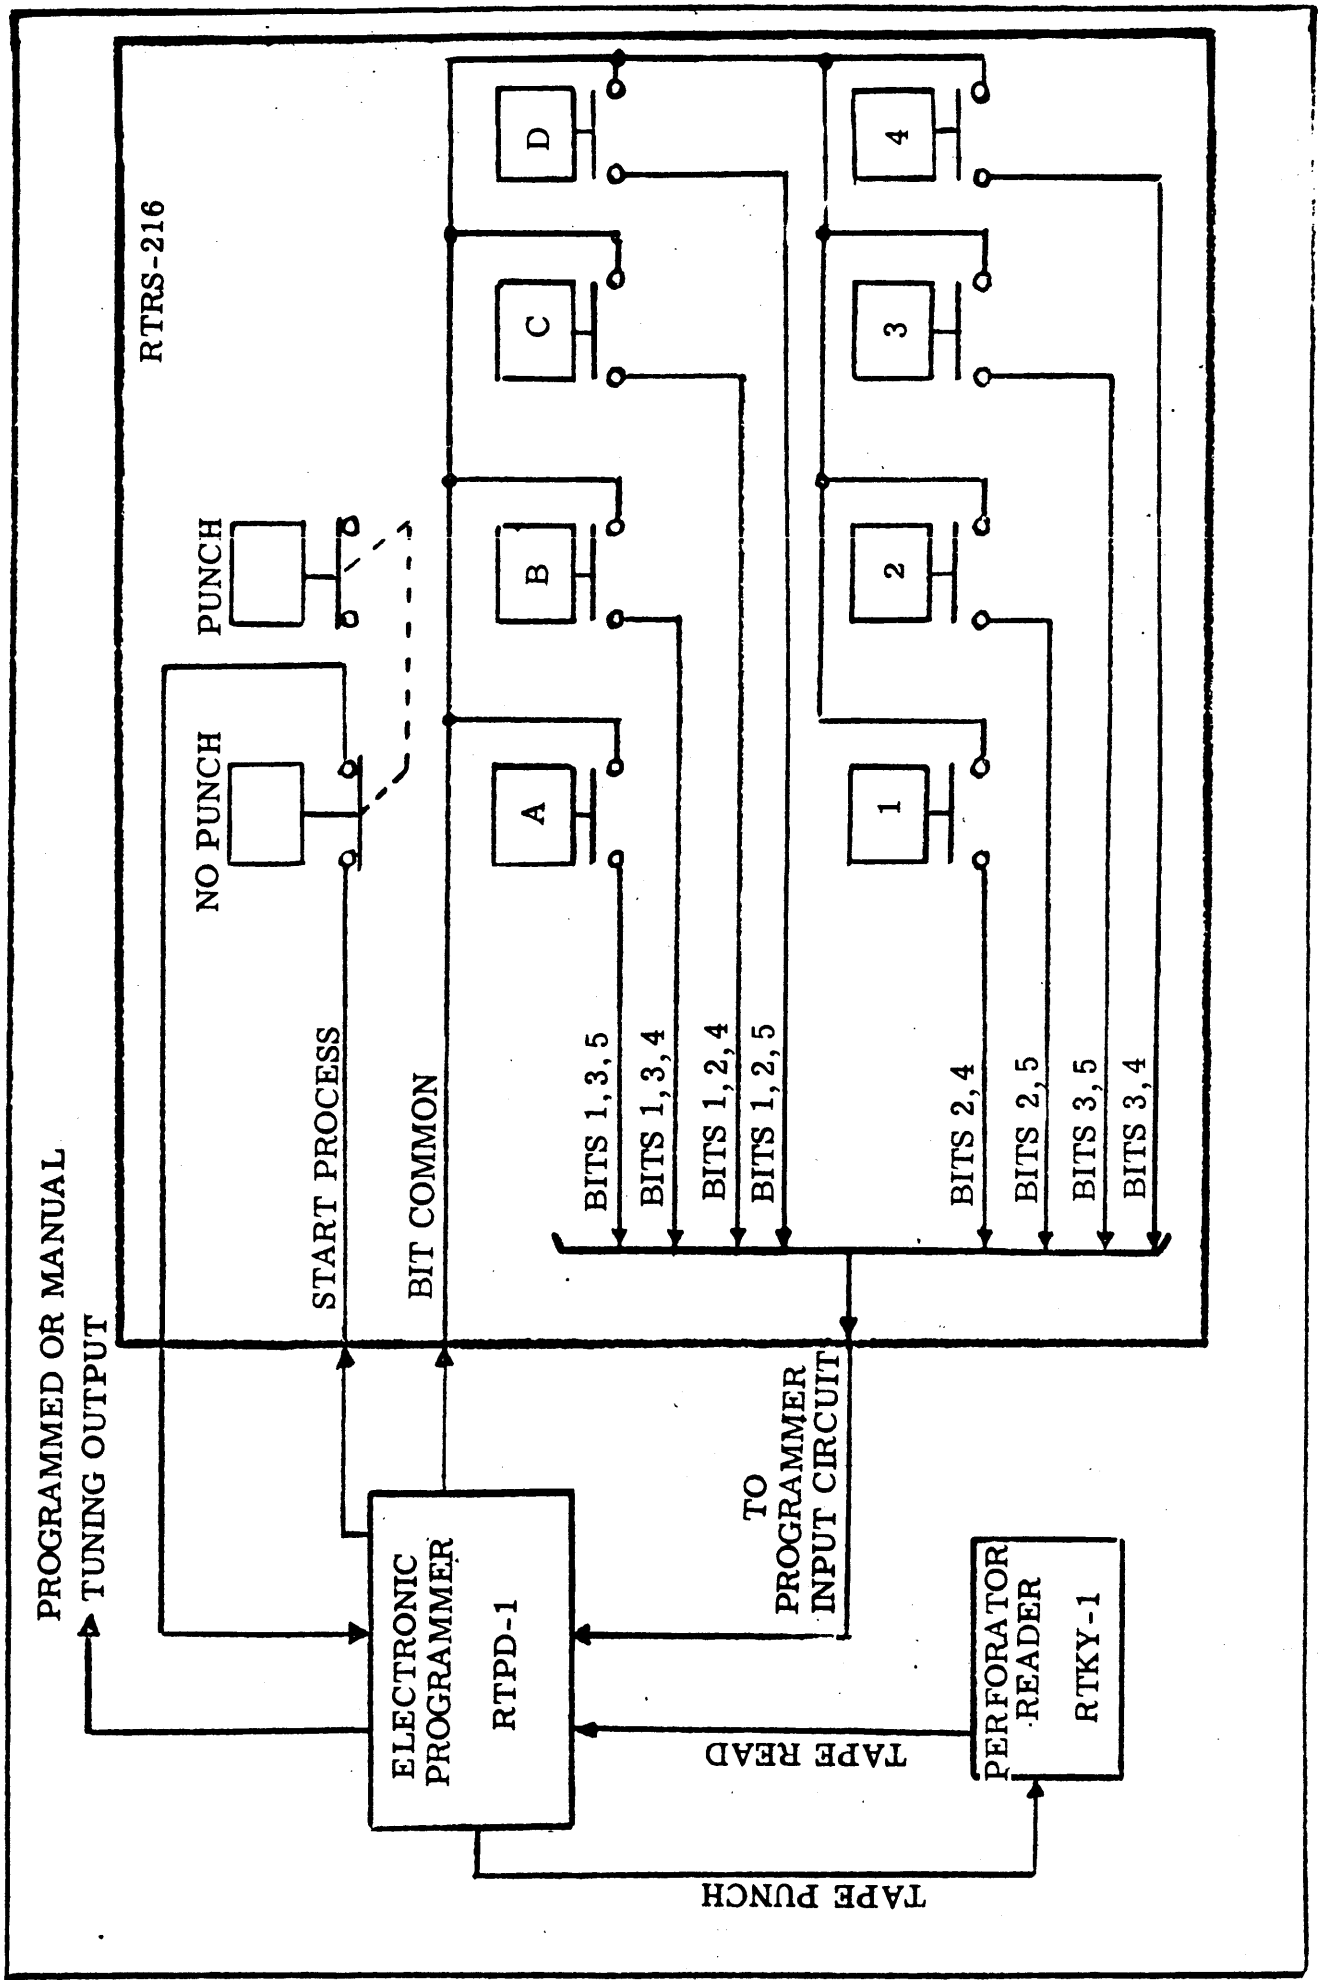

Figure 4-1. Functional Block Diagram
All numbered and lettered selector pushbuttons light when pressed, to indicate selection activation. See figure 4-1 for a functional block diagram showing the particular code-bits in relation to the various pushbuttons.
- a. Functional block diagram (Figure 4-1.)